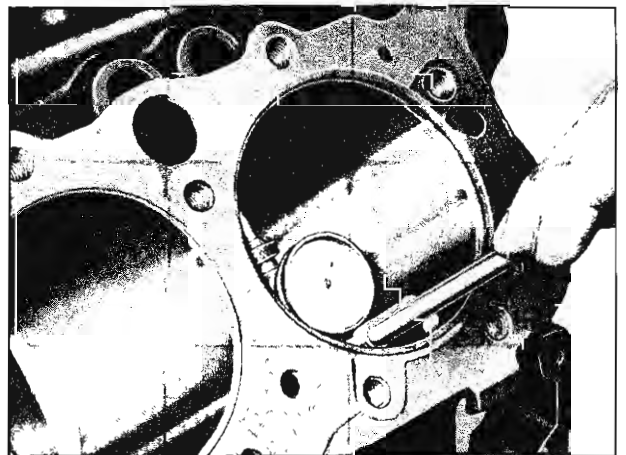

Fig. 89—Checking Cylinder Bores
2. Check the cylinder walls for taper, out-of-round or excessive ridge at top of ring travel. This should be done with a dial indicator (fig. 89). Set the gauge so that the thrust pin must be forced in about $\frac{1}{4}$ " to enter gauge in cylinder bore. Center gauge in cylinder and turn dial to "0." Carefully work gauge up and down cylinder to determine taper and turn it to different points around cylinder wall to determine the out-of-round condition. If cylinders were found to have more than .002 out-of-round, boring will be necessary.